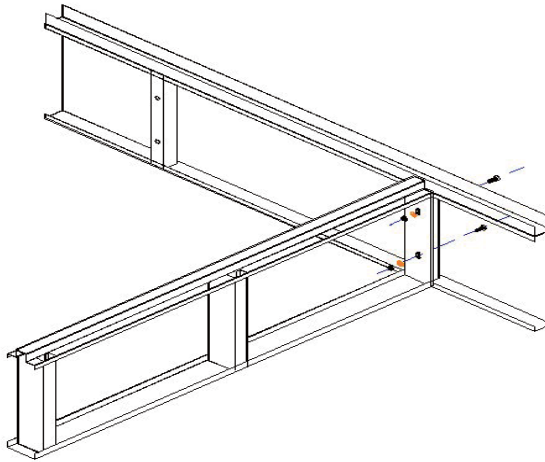

Fig. 2.4
1. Put the metal board(front,back,sides)and middle bracket in the right place,and connect them with bolt M8*20 according to the demand of the installation chart.then screw down.Shown in Fig.2.4.